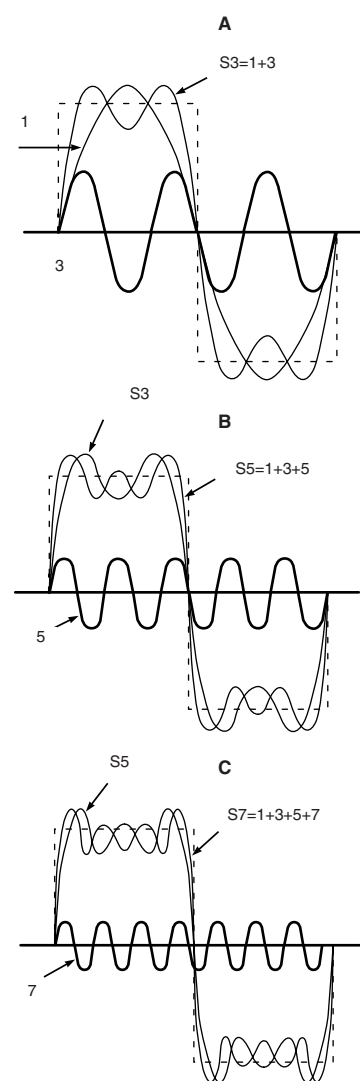

Figure 12
Now that we know why fast pulses are required, the next problem is how to obtain faster rise times. A pulse is made up of a great number of different frequencies, and the more high frequencies a pulse contains, the faster will be its rise time and the flatter will be its peak. To better understand this, refer to Figure 12. At A, you will see a fundamental frequency (1), its third harmonic (3), and the resultant waveform (S3), which is a combination of 1 and 3. Although this does not yet resemble a square wave, you will note that the rise time is decreased, and a dip appears at the peak. At B of Figure 12, we have added the fifth harmonic. Rise time is further decreased, and the peak is beginning to flatten out. At C the seventh harmonic has been included, and the resultant wave S7 begins to resemble a square wave. As more high frequency harmonics are added to the waveform, it will more closely resemble a square wave, and the squarer it becomes, the faster will be the rise time.